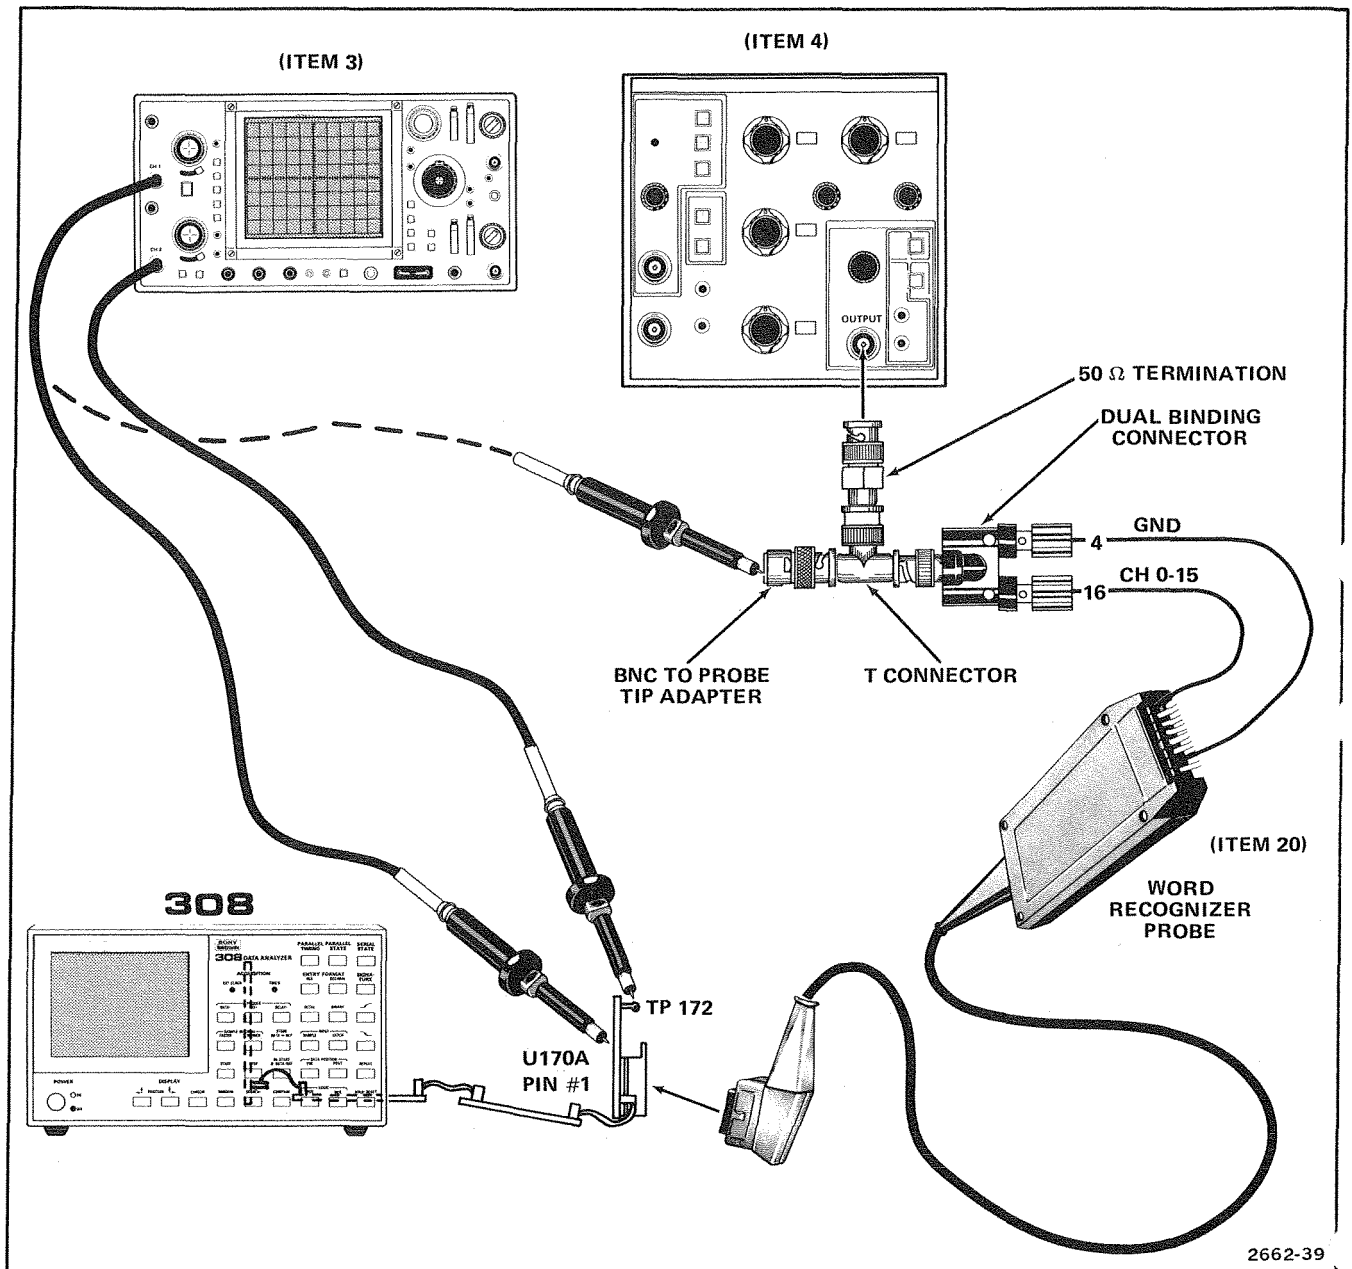

Figure 4-14. Test setup for adjusting external trigger delay.
h. Connect ground clips and Trigger Data input clips of the Word Recognizer Probe to the pulse generator output as shown in Figure 4-14.
i. Connect oscilloscope Channel 1 probe tip to the pulse generator output as shown in Figure 4-14.